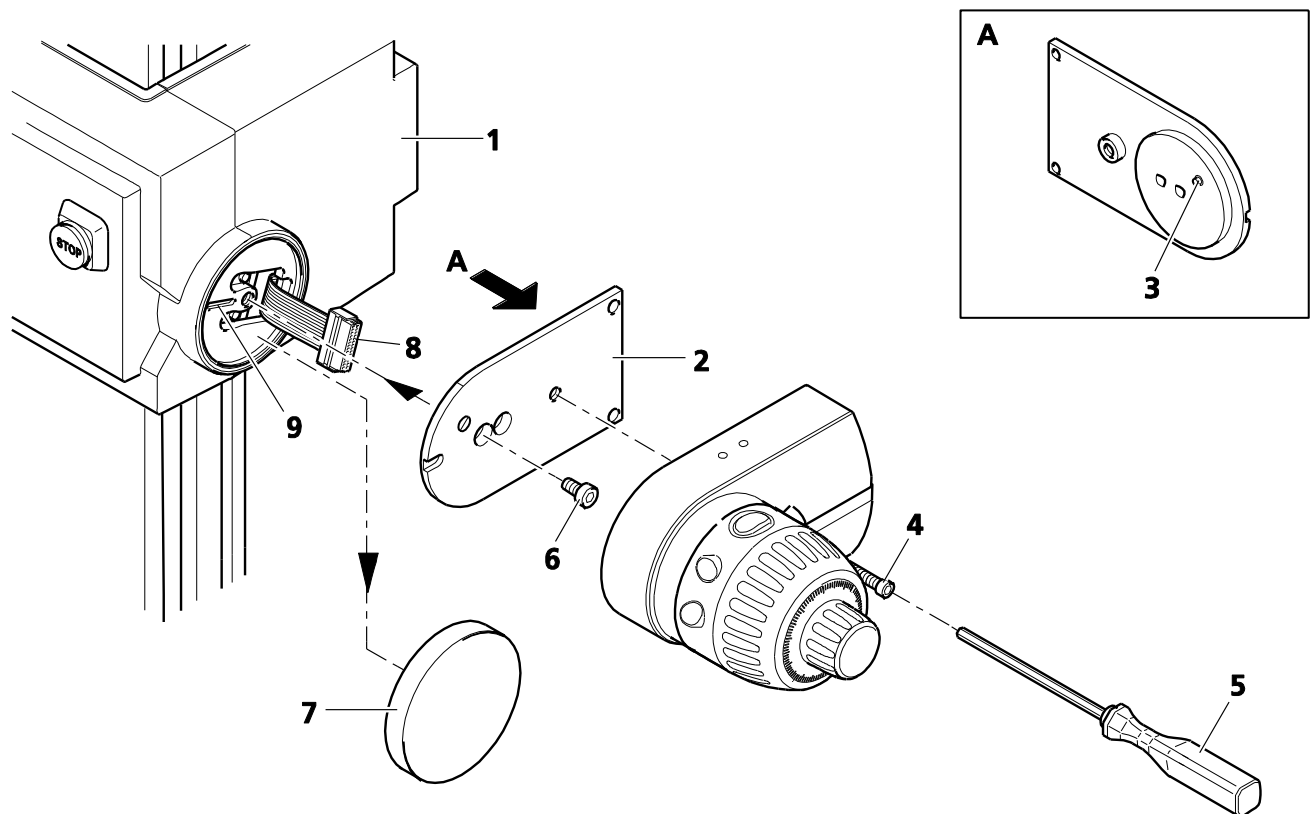
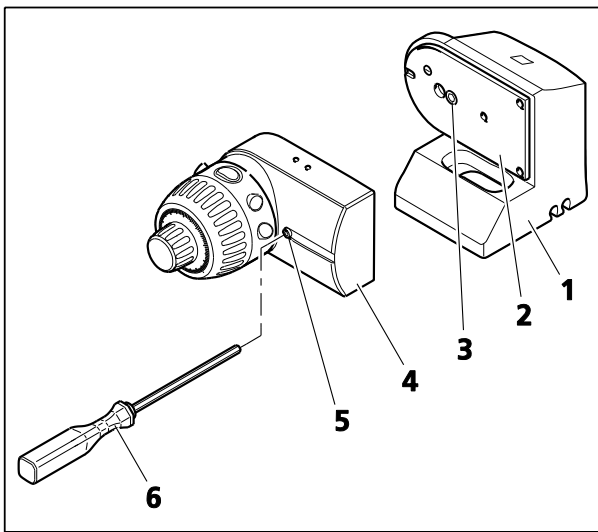

Fig. 20 Mounting the MaRC control unit (e.g.: to the focusing drive)
Fig. 21 Mounting the control unit MaRC to the table-top base
MaRC is a component used to control motor focus and zoom, respectively, and may be mounted to the focusing drive (Fig. 20/1), the microscope body (only on SteREO Discovery.V12/V20) or the table-top base (Fig. 21/1).
- Remove the mounting plate (Fig. 20/2) from the MaRC unit after loosening the Allan screw (SW 3; Fig. 20/4).
- Remove the cover (Fig. 20/7) from the focusing drive (Fig. 20/1) or from the microscope body (only on SteREO Discovery.V12/V20).
- Pull the connecting cable (Fig. 20/8) fully back into the casing without folding it.
- Bolt the mounting plate (Fig. 20/2) with the screw (Fig. 20/6) to the flange of the focusing drive (Fig. 20/1) (or the microscope body), putting the screw through the left hole of the mounting plate. Make sure that the orientation pin (Fig. 20/3) of the mounting plate engages with the groove (Fig. 20/9) provided for this purpose.
- Bolt MaRC by means of the Allan screw (SW 3; Fig. 20/4) to the fixed mounting plate (Fig. 20/2) using the ball-headed screwdriver (Fig. 20/5).
- Bolt the mounting plate (Fig. 21/2) with the screw (Fig. 21/3) to the table-top base (Fig. 21/1), putting the screw through the right hole of the mounting plate.
- Bolt MaRC (Fig. 21/4) with the Allan screw (SW 3; Fig. 21/5) to the fixed mounting plate using the ball-headed screwdriver (Fig. 21/6).